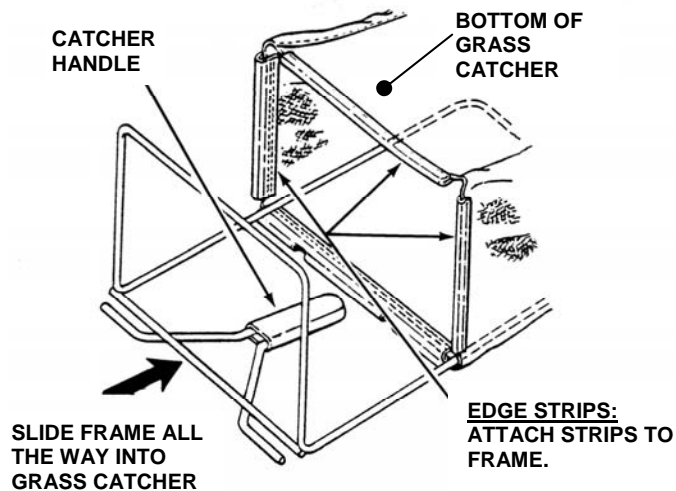

FIGURE 4
STEP 9: With grass catcher and catcher frame assembly upside down (plastic bottom turned up), insert bag frame assembly into catcher as shown in Figure 4. Fasten "C" shaped plastic edge strip located on front of bag around frame assembly on all four sides. Make sure edge strip is fastened securely.